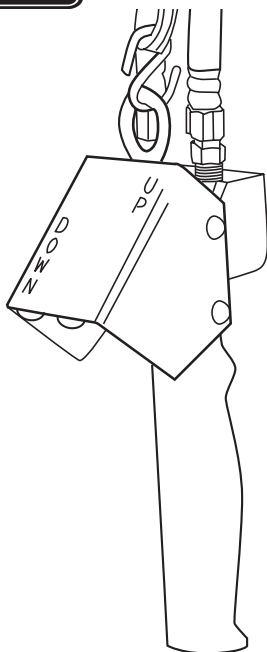

Figure 6—Pendant Throttle Control Handle
- a. Depress throttle valve lever marked "UP" to raise load (See Figure 6).